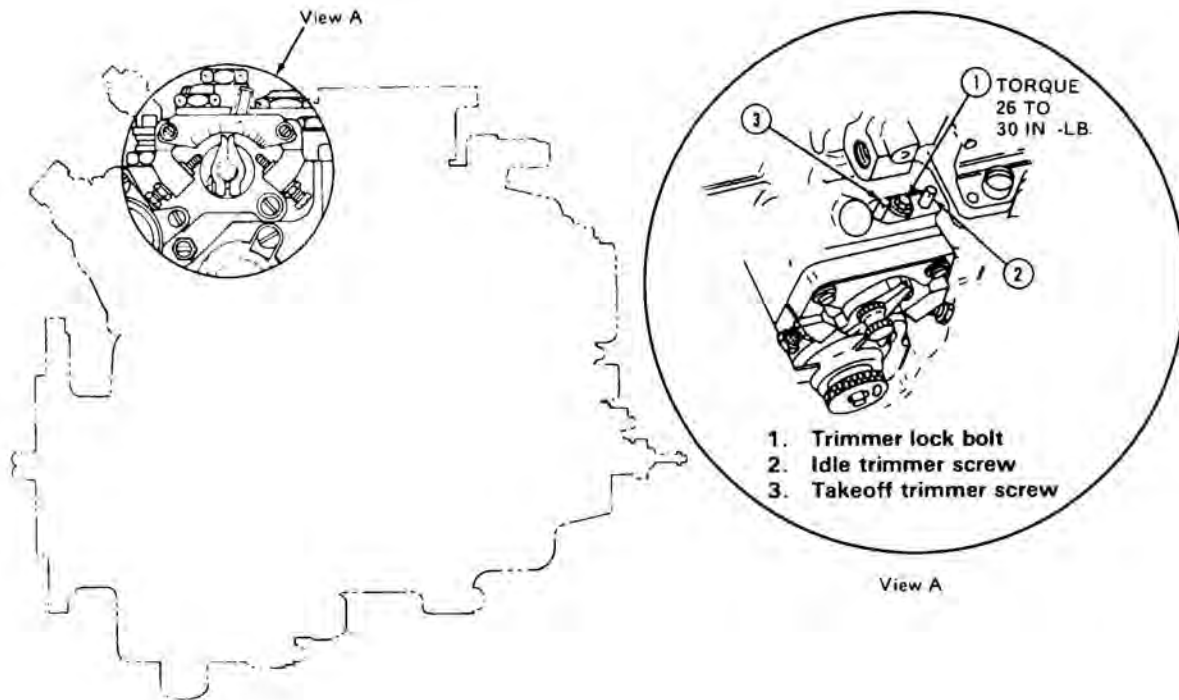

Figure 76-4. Fuel Control Adjustments
76.3.3.2.1.1 Remove lockwire and loosen the trimmer lock bolt (1, Figure 76-4)